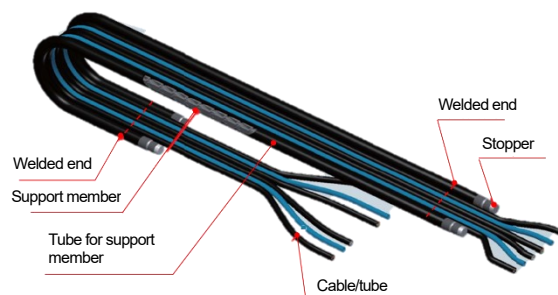

Fig. 3
1. Bend the FLATVEYOR (Fig. 3) before fastening it onto equipment.